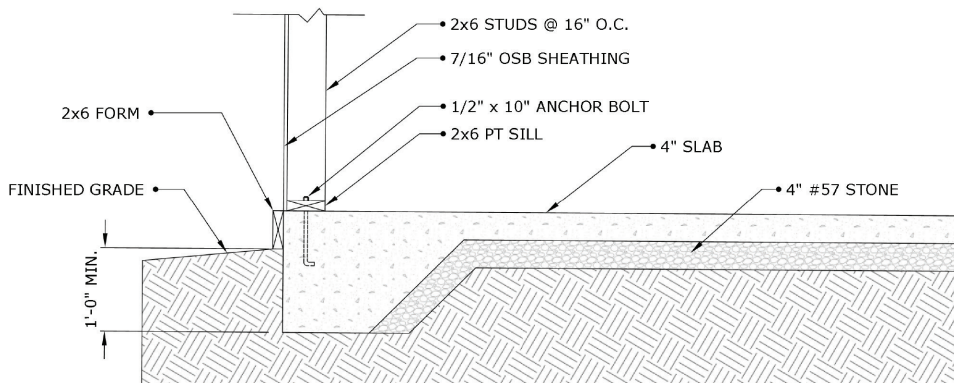
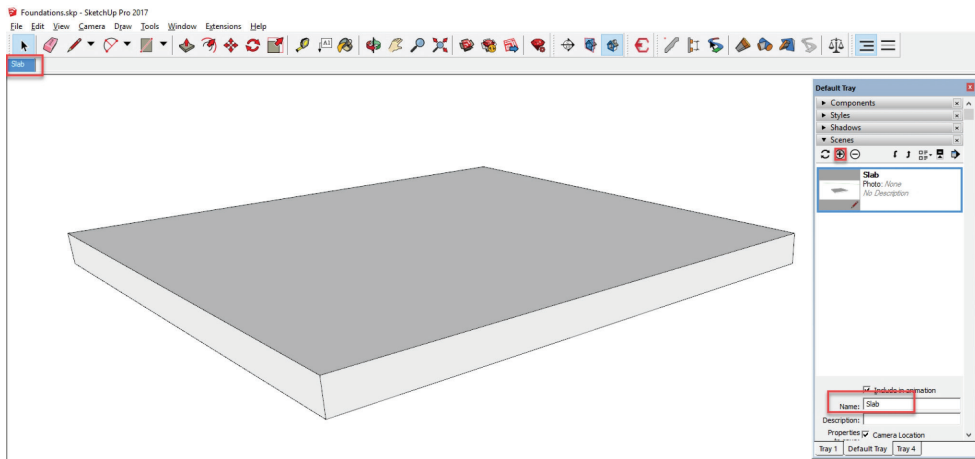
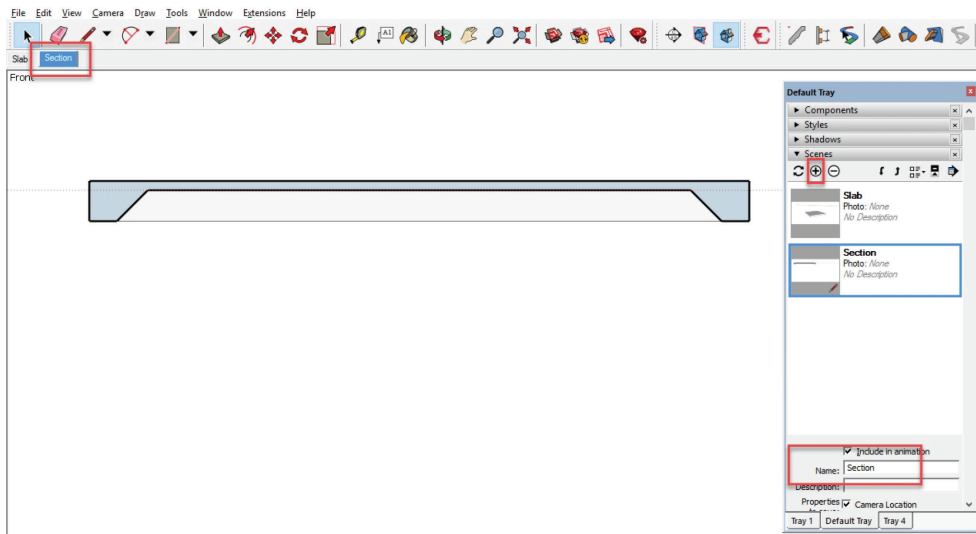

Figure 10.1 Typical Slab Selection.
Figure 10.11 Scene.
Figure 10.12 Section Scene.
Slabs are the easiest type of foundation to model in SketchUp. As you learned in our cubic yard example, you could imagine that a slab is simply the perimeter face, extruded the thickness of the slab using the push/pull tool. Take a look at an example of a 24' × 24' garage on slab. Figure 10.1 depicts a typical section detail.
15. You have now modeled the slab, reported its volume, and created a scene, so check out a great feature of SketchUp—Sections. If you refer to the original cross-section (Figure 10.1) you will see the idea that you want to achieve from the model. Using the Section Tools (Figure 10.7) you can create
17. Take a minute to hover over each face of the thickened slab and notice that the plane will change axis from red and green for a vertical section cut, blue for a horizontal section cut, and magenta for the tapered section cut. What you want to produce is a vertical section cut to emulate the section depicted in Figure 10.1. Since this is a true square slab, it does not matter which face, red or green, you choose, so click on the green face (the vertical outside edge of your slab). You will now notice that the plane has cut through the entire group and placed a section cut just inside, as shown in Figure 10.9, with a heavy black border around cut. Orbit around to look inside your new slab.
19. Now, move this section plane inward to view the tapered section as depicted in Figure 10.1. To do this, click on the section plane itself and notice it turns blue (Active) and is the current selection. Press **M** to Move the Section Plane inward, you will notice as you move your mouse the Section Plane is cutting through the entire group and you can stop at any point. Move it to the interior portion of the slab so that you may see the thickened, tapered portion and click again to make the cut. At this point, take a look at what the other Section Tools do—for example if you were to click on the middle tool, Display Section Planes, it toggles the planes visibility on and off. The third icon, Display Section Cuts, toggles the Section Cuts themselves off and on.
20. Next, let's create a scene for your Section Cut of the slab so that you can compare it to the section detail provided in Figure 10.1. First, cut off the Section Plane itself so that you are just looking at the cross-section of the slab. Further, let's temporarily cut off the Section Cut as well. You should now be looking at your slab with no cuts or planes. Create a new scene that best views your slab, such as in Figure 10.11.
21. Once you have your desired view, In the Scenes Dialog Box, click on the + button to create the Scene and give it a name, type in Slab in the Name box. You should now see a new Scene tab in the top left, as seen in the above Figure 10.11, as well as a thumbnail image.
24. You should now be viewing your section cut straight-on and it looks like the section detailed in Figure 10.1. However, you will notice a film (translucent plane) over it, or the Section Plane. You can toggle the visibility of this plane *off* to view it without the translucent plane. Next, create a new scene for the Section by clicking on the + button in the Scenes Dialog Box to create our new scene and name it “Section.” You should now see something similar to Figure 10.12. The wonderful thing about scenes is that they allow you to view your model in saved various views with different attributes. You could now select the Slab Scene to view it in perspective and select the Section Scene to view it in Parallel Projection with a Section Cut. You can create Scenes to help you navigate your model easily and quickly.